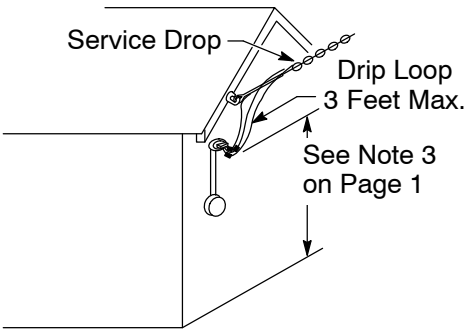

Figure 9
2. The service drop may be located above the service head, as in Figure 7 and Figure 9 (on Page 7), provided: